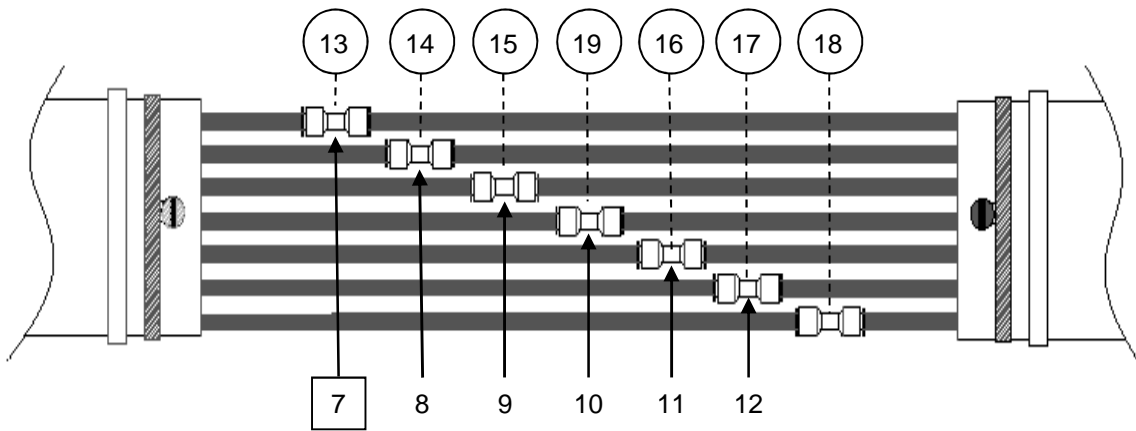

Figure 16
12.2 Locate inner ring Tube 13 and outer ring Tube 7 of first tube cable. **See Fig. 16.**